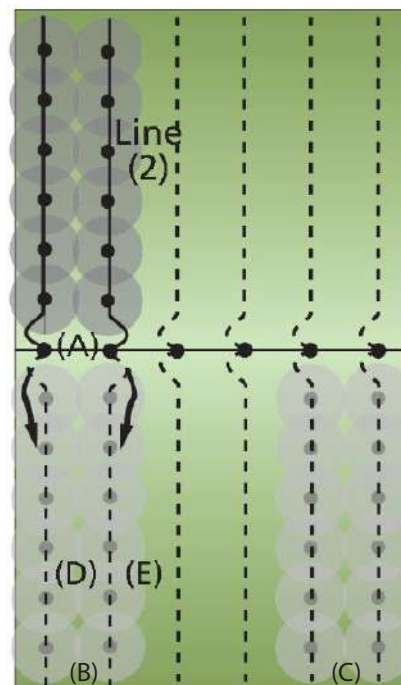

Figure 3.
Go to the submain (valve) end of the sprinkler line (1) (point (A) in Figure 3). Uncouple the line (1) from the submain, then connect the tow rope onto the K-Line™ then tow towards point (B). The K-Line™ will end up in position (D). Unhook, install a plug end then re-couple the K-Line™ back at the submain. Repeat this shifting process for line (2) uncouple at point (A) then tow the line toward point (B), Install the plug then re-couple at point (A).